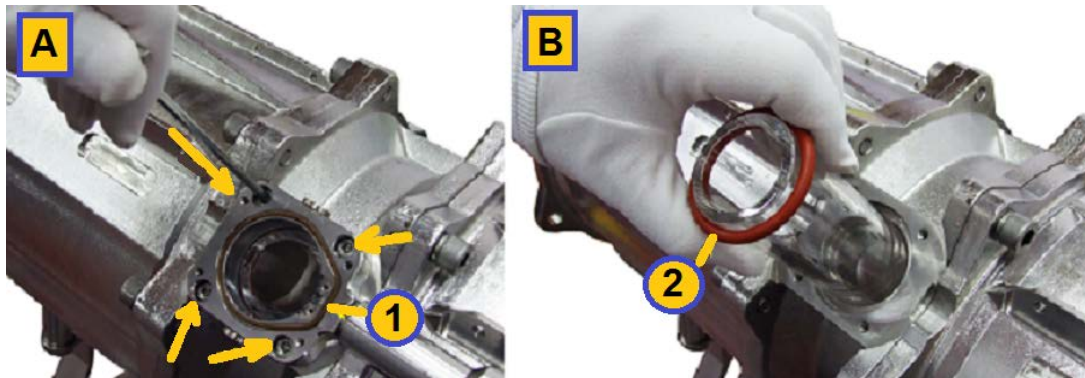

Figure 10-26: Replacing the Quartz Sleeve (Generic View 1)
- Two O-rings (See view B in Figure 10-26 below)
- Step 15.** Mount the new O-ring onto the quartz sleeve (as shown in view B in Figure 10-26 above) and insert the sleeve into the Unit. Make sure it is centered.